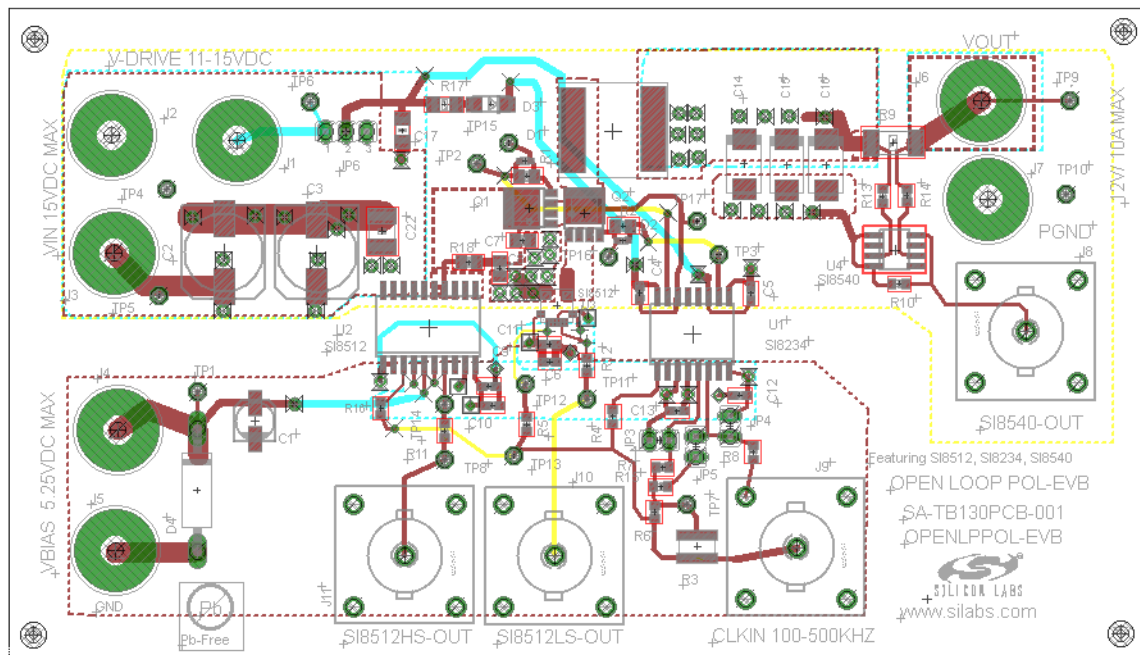

Figure 6. Open Loop POL Evaluation Board Silkscreen
The Open Loop POL evaluation board has an Si8234, two Si8512s (both the QFN and SOIC packages) and a Si8540 installed. There are two Si8412s (QFN and SOIC packages) installed to allow users to evaluate either package. Refer to Figure 6 for the locations of the various I/O connectors and major components.
- Removed Figure 6, “Open Loop POL Evaluation Board Schematic (Sense)”.